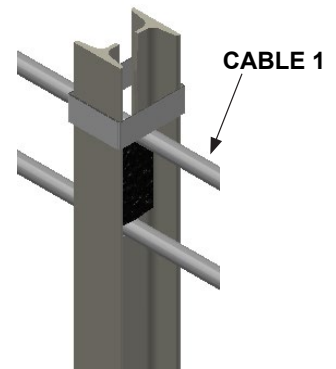

Figure 21
5. Place Cable 1 (top) of the spacer. Place a post strap (PN: 105202T) on top of the cable. See Figure 21.